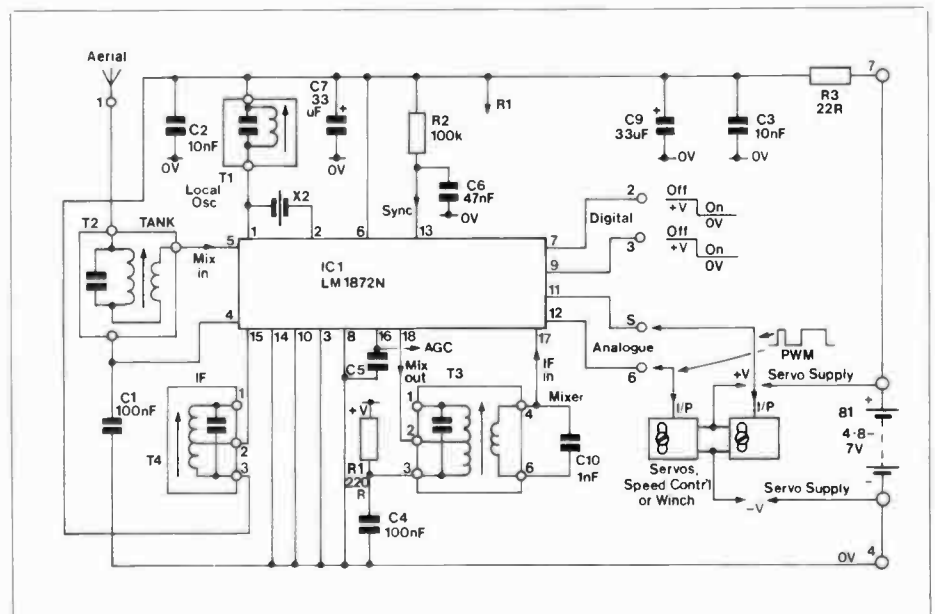

Figure 8. 27MHz Receiver circuit diagram
Figure 8, the circuit diagram, shows the receiver and external connections. Transmitted 27MHz signals are picked up by the aerial and coupled to the mixer via tank coil T2. This coil effectively keeps strong out-of-band signals like TV and FM broadcasts from cross-modulating with the required signal. A local oscillator consisting of T1 and X2 connects via IC1 pins 1 and 2 to the internal mixer section where the local oscillator and aerial signals are mixed at T3 primary (pin 18). The stepped down signal appears on IC1 pin 17 which is the intermediate frequency (IF) input. IF tuning is performed by T4. In the case of using 'blue band' crystals for example, the transmitter frequency will be 27.245MHz and the receiver local oscillator will run at 26.790MHz. When these two signals are present at the mixer, a difference signal is produced, in this case 27.245 – 26.790MHz = 455kHz. This is true for all crystal pairs which is why matching is important. The 455kHz signal or IF (since it is intermediate between the input RF frequency and the desired audio frequency) is recognised by a tuned bandpass filter T4, which only responds to frequencies in the range 455kHz ±3.2kHz (3dB). Sum and difference signals above 460kHz and below 450kHz are not amplified and become ineffective. This is basically how superheterodyne receivers, of which this is an example, function.